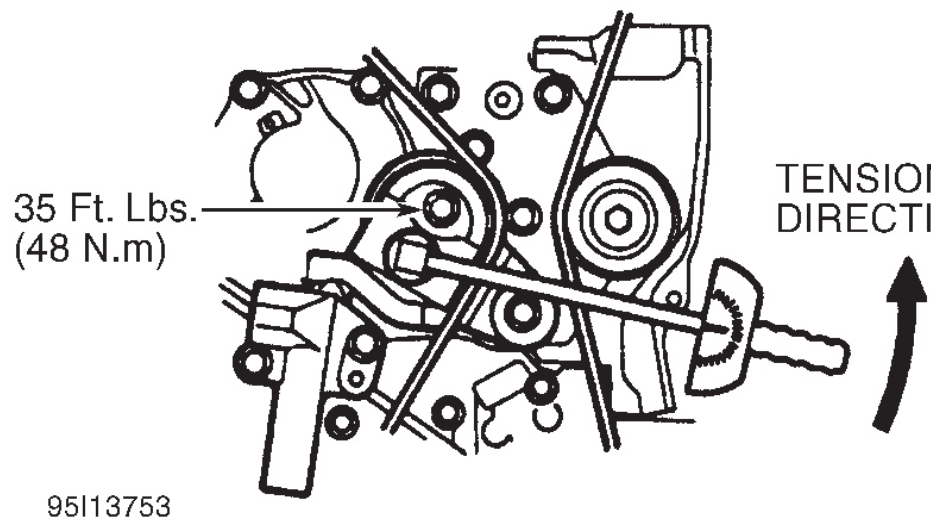

Fig. 32: Adjusting Timing Belt "A" Tension Pulley
16. Using an INCH-lb. torque wrench and Socket Wrench (MD998752 or MD998767), pulling upwards (counter clockwise) apply 22-24 INCH lbs. (2.6-2.8 N.m) on tensioner pulley. See **Fig. 32**. With torque applied to tensioner pulley, tighten tensioner pulley center bolt to 35 ft. lbs. (48 N.m).